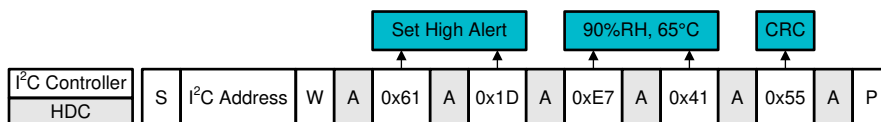

Figure 7-18. I²C Command Sequence: Example Programming of Set High Alert to 90% RH, 65°C
- a. Figure 7-18 illustrates the appropriate command to send to the HDC302x-Q1.